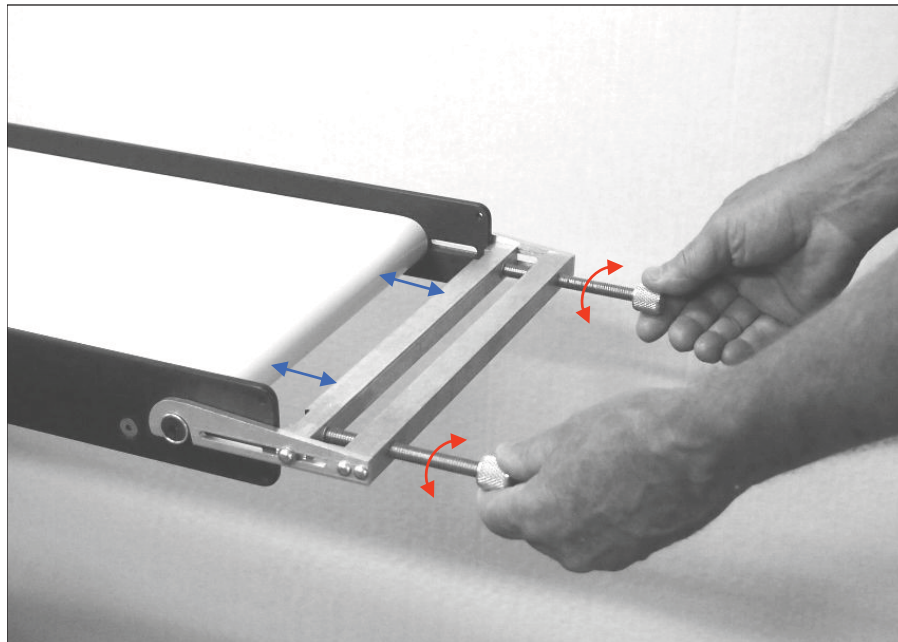

Fig. 6 — Belt tensioning tool used for tracking at the idler end
3. To adjust the belt tracking, tighten (clockwise) the tensioning tool knurled adjustment knob in about 1/16-turn increments until the belt is center tracking. See Fig. 6 below.
4. Run the conveyor an additional 1-2 minutes to assure the belt continues to center track. Make any final adjustments required, per Fig. 6 below.